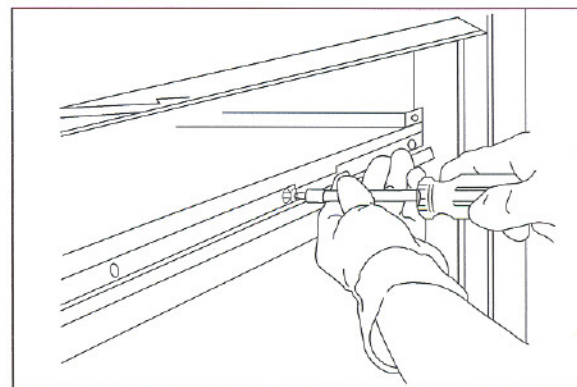
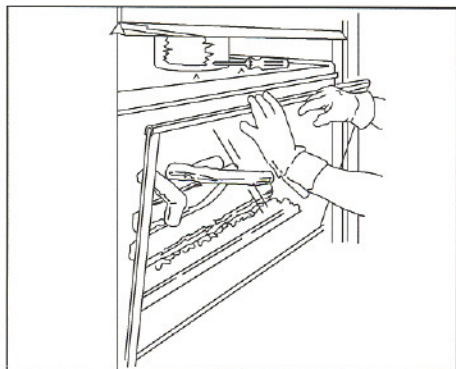
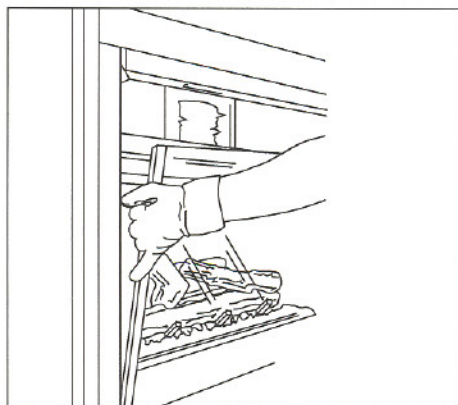

Figure 24
Figure 25
Figure 25a
To remove the glass and screen assembly, first loosen the five (5) screws located on the top portion of the glass as shown in Figure 24. Be sure to hold the glass to prevent it from falling out once the screws have been loosened and removed. Remove the metal retaining strip which is positioned along the upper edge of the glass. See Figure 25. Gently tilt the glass towards yourself and lift it out of the bottom track. See Figure 25a.